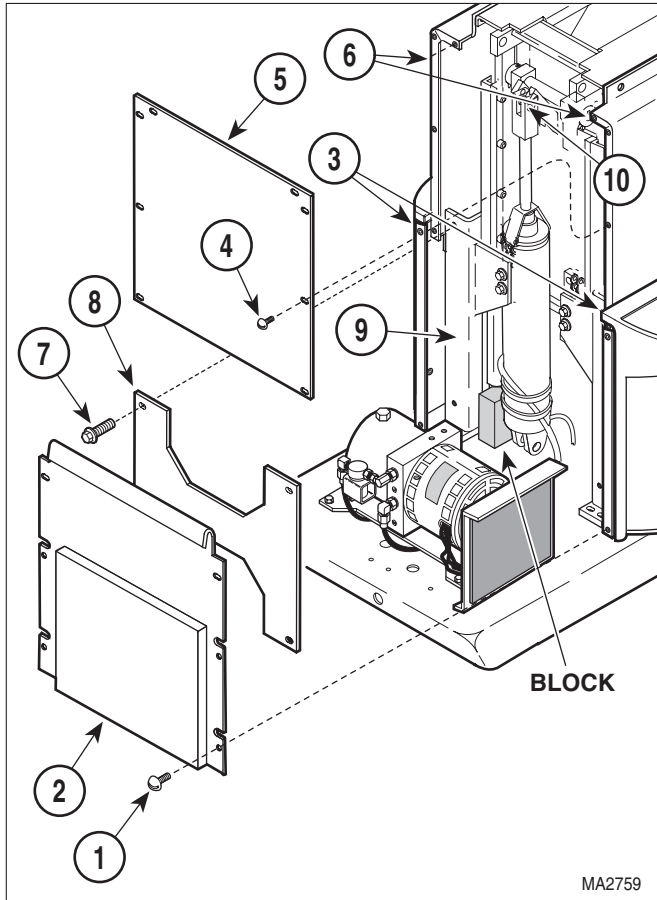
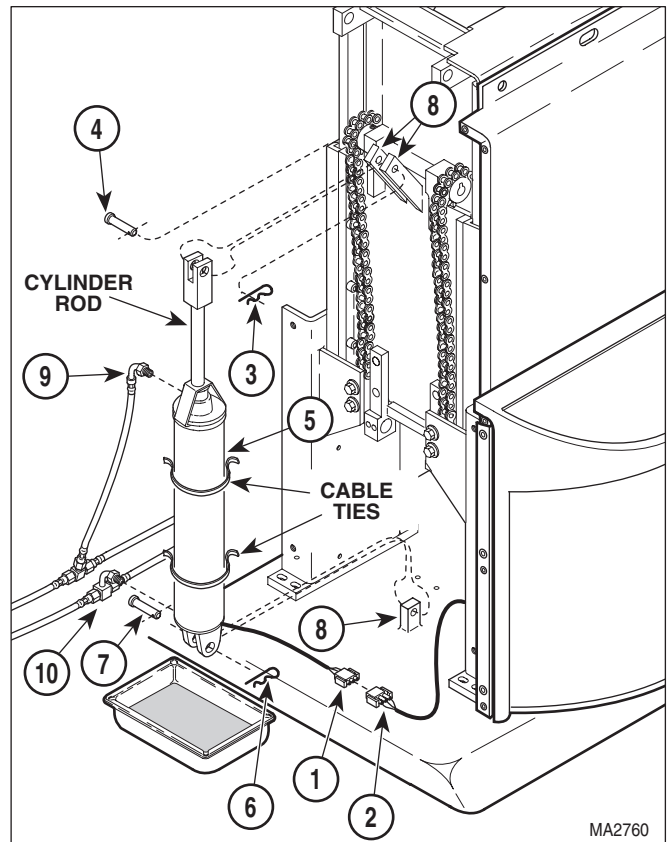
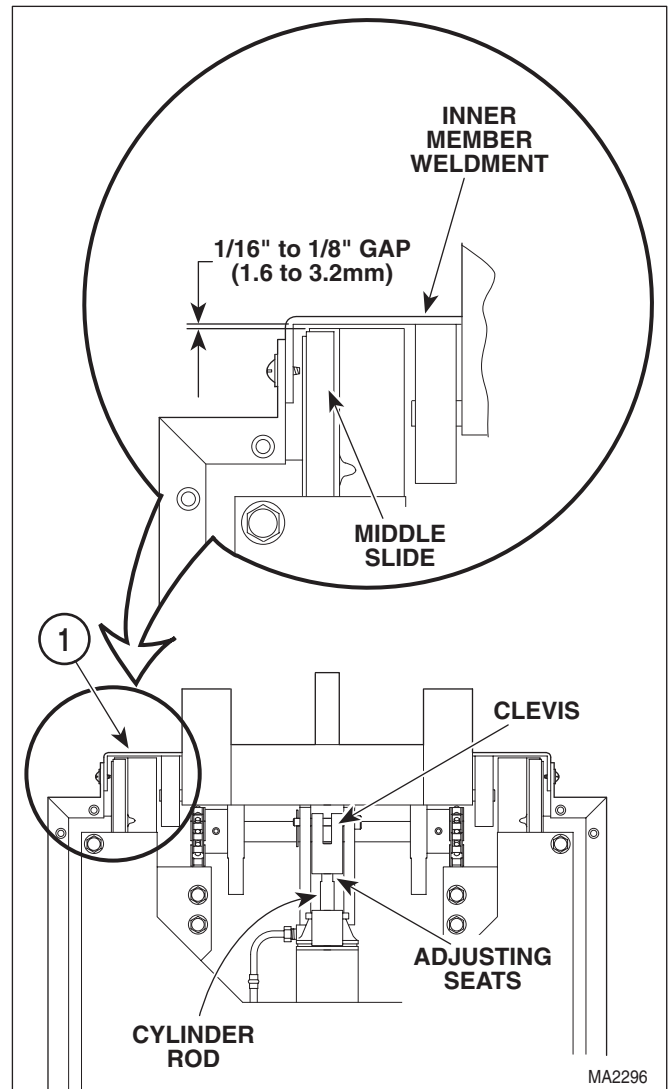

Figure 4-14. Base Cylinder Access
Figure 4-15. Base Cylinder Removal / Installation
Figure 4-16. Base Cylinder Clevis Adjustment
- (1) Unplug table power cord from outlet.
- (2) Remove motor cover assembly (Refer to para 4.2).
- (3) Remove four screws (1, Figure 4-14) and back outer shroud (2) from left and right hand outer shrouds (3).
- (5) Remove four screws (7) and brace (8) from base slide assembly (9).
- (6) Plug table power cord into outlet.
- (7) If BASE DOWN function is operable, place a block under middle slide of base slide assembly (9). Then lower the BASE DOWN function until the middle slide of the base slide assembly is resting on block and pressure is off clevis pin (10). If BASE DOWN function is not operable, move table top to a horizontal position and place supports under each end of table.
- (8) Disconnect base cylinder wire harness (1, Figure 4-15) from wire harness (2).
Make sure table top is properly secured from lowering or tipping over when base cylinder is disconnected from table top. Clevis pin (4, Figure 4-15) should not have any weight on it if table top is supported properly. Failure to have table top properly secured could result in serious personal injury or death.
- (1) Position base cylinder (5, Figure 4-15) on table.
- (2) Connect base tee (10) to base cylinder (5).
- (3) Connect hose assembly (9) to base cylinder (5).
- (4) Secure hose assembly (9) to base cylinder (5) with two cable ties.
- (5) Install base cylinder (5) on brackets (8) and secure with clevis pins (4 and 7) and hitch pin clips (3 and 6).
- (6) Connect base cylinder wire harness (1) to wire harness (2).
- (7) Plug table power cord into outlet.
- (8) See Figure 4-14. Raise BASE UP function slightly and remove block from under middle slide of base slide assembly (9) or remove supports from under table top.
- (9) Lower BASE DOWN function all the way down.
- (10) See Figure 4-16. If there *is not* a 1/16 to 1/8 inch (1.6 to 3.2 mm) gap between inner member weldment and top of middle slide when the BASE DOWN function is completely lowered (it is especially important that the inner member weldment does not come into contact with the top of the middle slide), perform steps 11 thru 13. If gap is correct when the BASE DOWN function is completely lowered, go to step 14.
- (13) Repeat steps 9 thru 13 until there *is* a 1/16 to 1/8 inch (1.6 to 3.2 mm) gap between inner member weldment and middle slide of base slide assembly when the BASE DOWN function is completely lowered.
- (14) Install brace (8, Figure 4-14) on base slide assembly (9) and secure with four screws (7).
- (15) Install back inner shroud (5) on left and right hand inner shrouds (6) and secure with eight screws (4).
- (16) Install back outer shroud (2) on left and right hand outer shrouds (3) and secure with four screws (1).
- (17) If necessary, add oil to motor pump (Refer to para 4.3).
- (18) Install motor cover assembly (Refer to para 4.2).